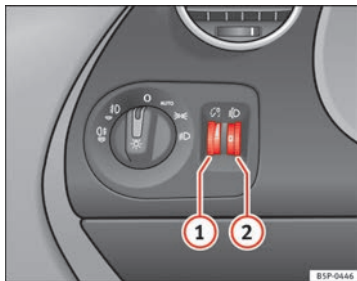

Fig. 72 Dash panel: regulation for instrument and switch lighting and headlight range control
When the headlights are switched on, the brightness of the instruments and switch lighting can be regulated to suit your requirements by turning the thumb wheel ⇒ Fig. 72 ①.